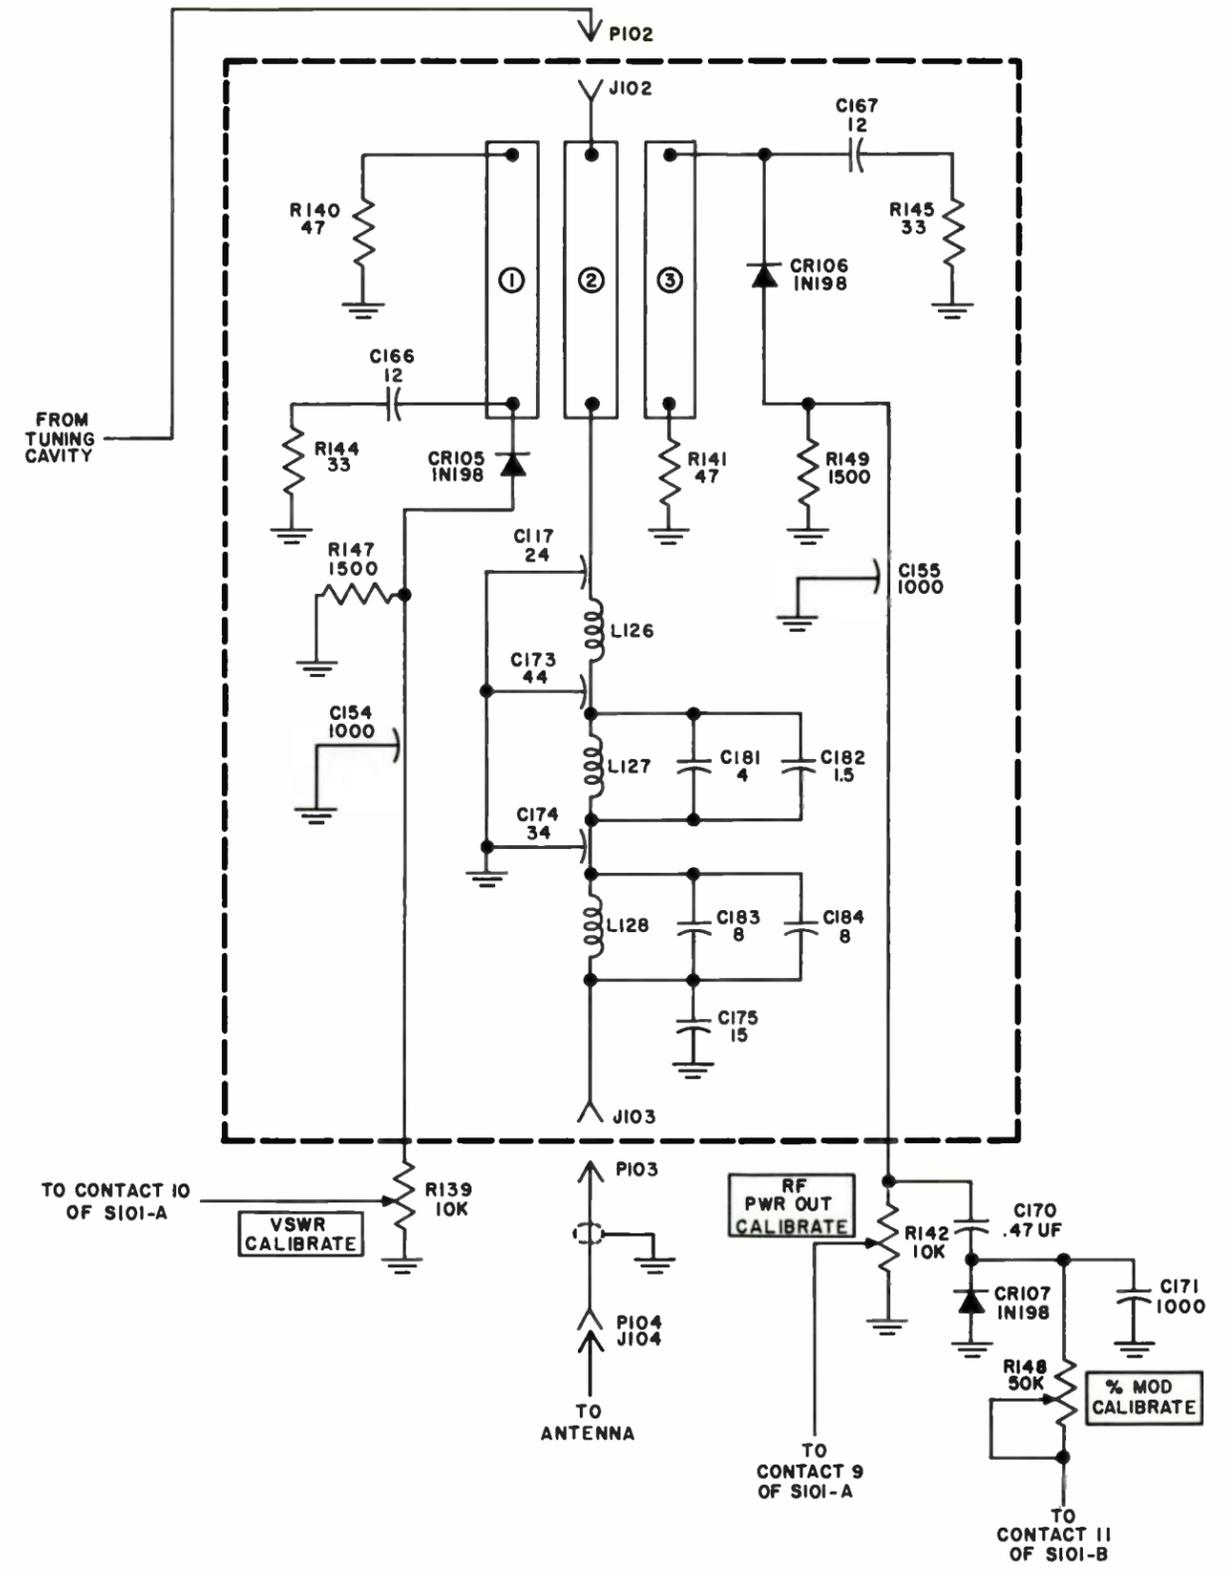

Figure 4-5. Filter Coupler Unit
4.3.1.6 FILTER COUPLER UNIT. (Refer to figure 4-5.) The r-f output from the cavity is coupled to jack J102 of the filter coupler unit. Jack J102 is connected to the center element, marked 2, of the directional coupler. The other end of the center element is connected through the r-f line filter network to jack J103 which leads to the antenna. The r-f filter network greatly attenuates all carrier harmonic output.